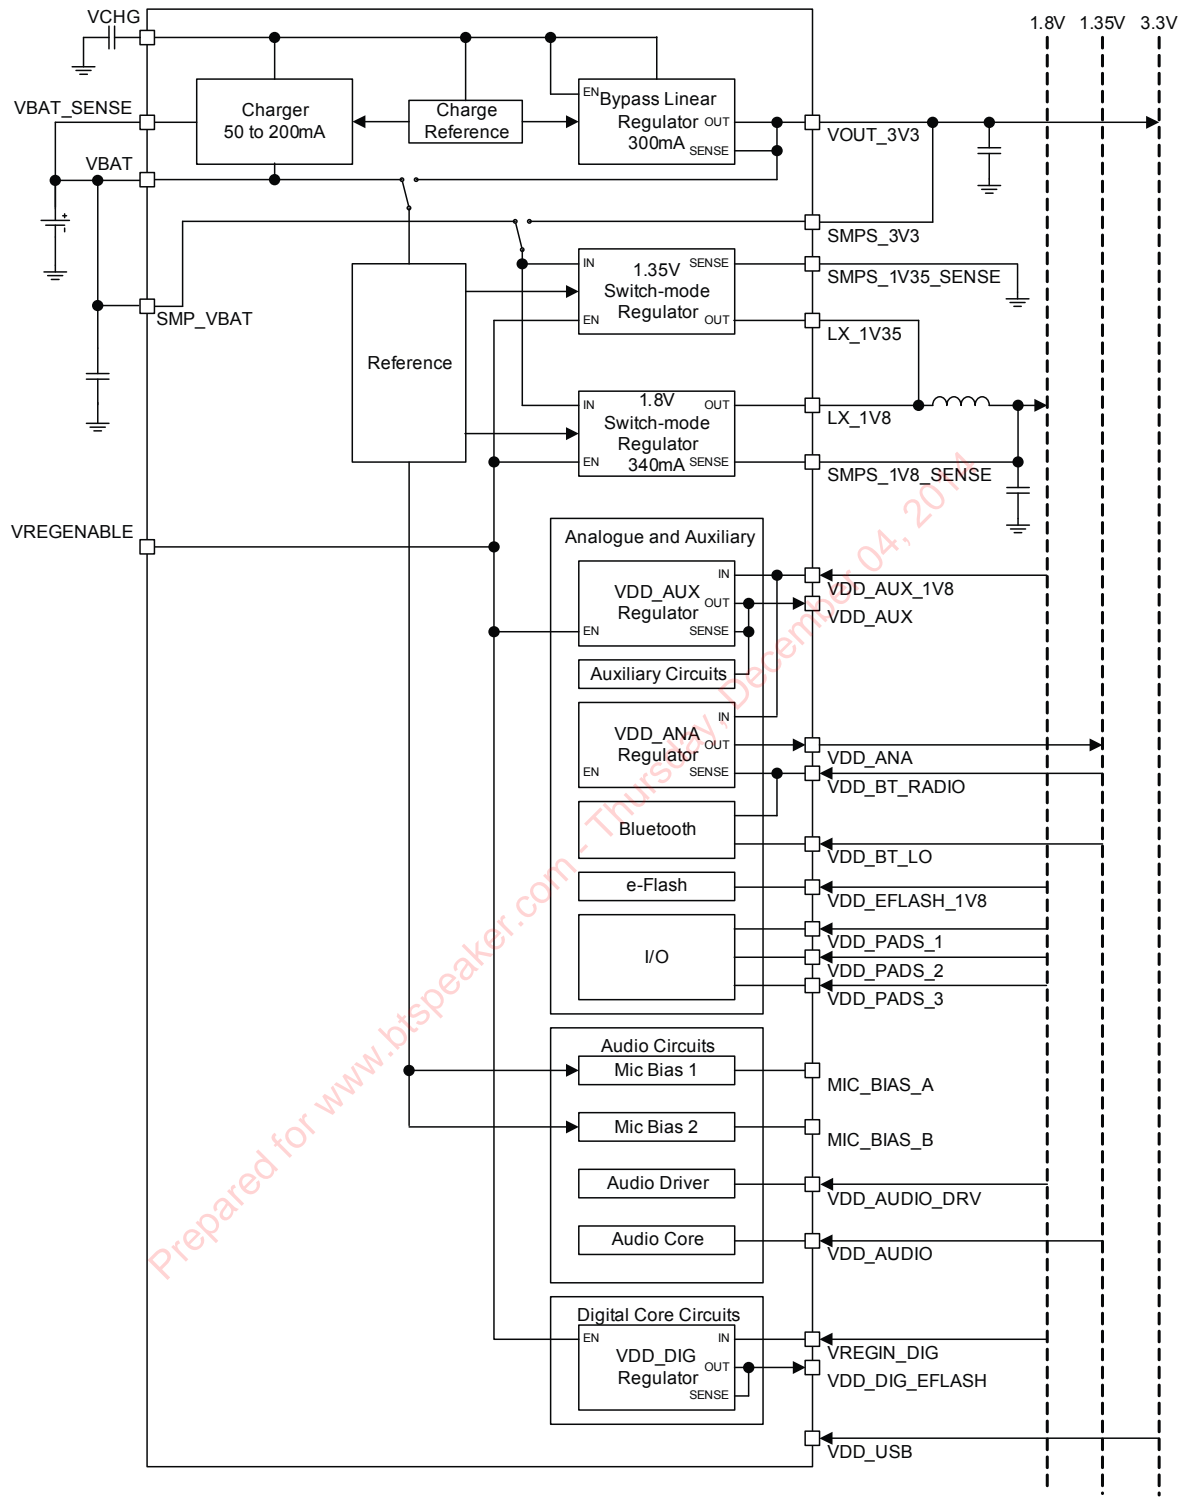

Figure 12.2: 1.80V Parallel-supply Switch-mode System Configuration
- A 1.80V parallel-supply rail system for higher currents using the 1.80V and 1.35V switch-mode regulators with combined outputs, see Figure 12.2.